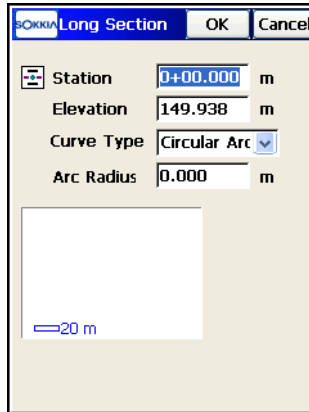

Figure 7-21. Add Long Section
- On the *Long Section* screen (Figure 7-21 on page 7-19), select the type of the curve to add from the *Curve Type* drop-down list, either *Parabola* or *Circular Arc*, and enter the station distance from the beginning of the road, the elevation